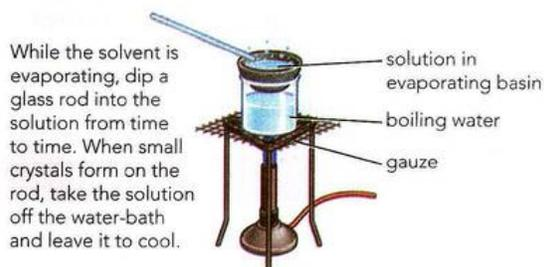

Figure 21.10: Evaporation method to produce the salt crystals.
- 4 Place the filtrate into an evaporating basin and heat over a water-bath (Figure 21.10). Allow water to evaporate until crystals of salt start to form when a glass rod is placed in the solution.